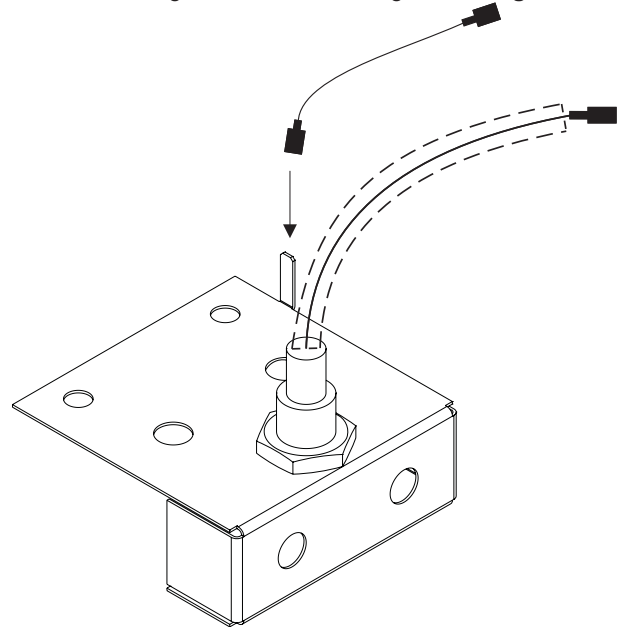

Figure 11
1. Connect the ground wire to the ground lug on the collector box before installing the burner into the grill. **See Figure 11.**